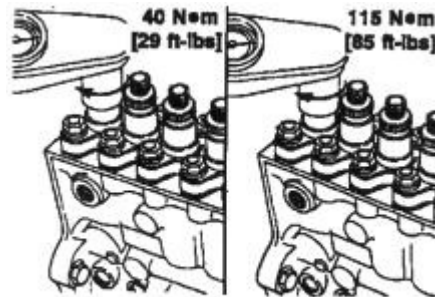

Figure 19
20. Pre-torque the holder to 40 NM (29 lb. ft.). **Next, in one motion, torque the holder to 115 NM (85 LB. FT.).** (Figure 19).